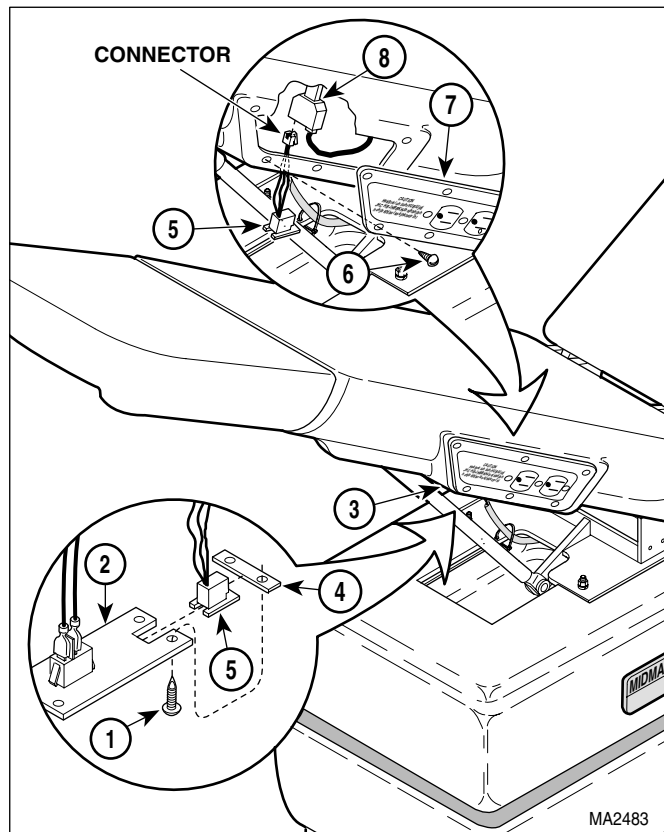

Figure 4-7. Hand Control Plug-In Port Removal / Installation
- (1) Unplug power cord from wall outlet.
- (2) Remove four screws (1, Figure 4-7) and partially separate control cover (2) from plastic seat section (3).
- (3) Remove clip (4) and hand control port (5) from control cover (2).
- (4) Remove six screws (6) and partially separate receptacle cover (7) from plastic seat section (3).
- (5) Disconnect connector of hand control port (5) from modular coupler (8).